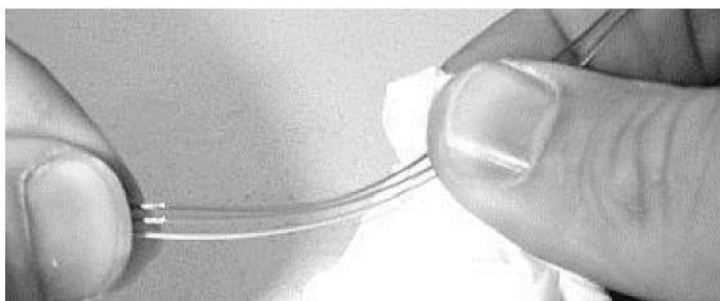

Figure 32 . Clean the optical fibres
5.21 Clean the exposed fibres using a lint free wipe soaked with isopropyl alcohol (Figure 32). Fasten the tube(s) to their corresponding splice organizing tray.